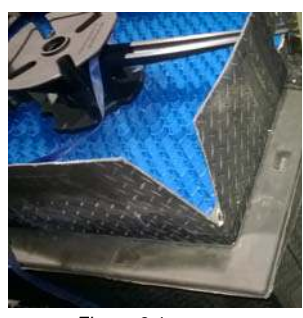

Figure 3.1a
- 10. Make a 4" V cut on every corner joint of MicroFAST® as shown in *Figure 3.1a*.